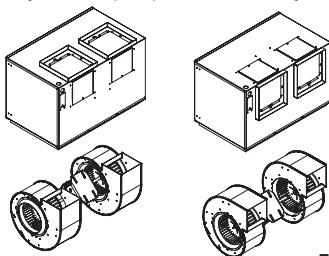

Figure 5
4. Singlewide and doublewide models can be rotated from horizontal to vertical discharge. To rotate from horizontal to vertical discharge, remove the two screws holding the power assembly in, and pull power assembly out. Rotate power assembly 180 degrees and put back into fan. Refer to Figure 5. Use the same screws to reattach power assembly to fan housing. Flip fan over and remove the four screws holding the discharge duct and damper assembly. Exchange the assembly with plate mounted on top of fan.